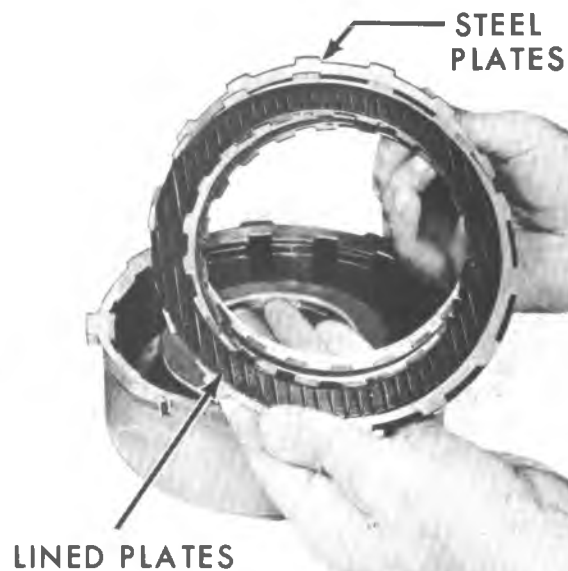

Fig. 7A-74B--Removing Drive and Driven Plates
7. Using compressor tool J-23327, remove direct clutch piston return spring seat retaining ring, spring seat and seventeen (17) clutch return coil springs (fig. 7A-75B).